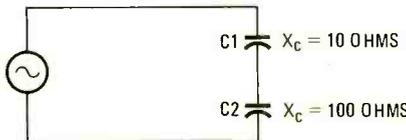

FIG. 3
5. Which statement is true regarding Fig. 3?